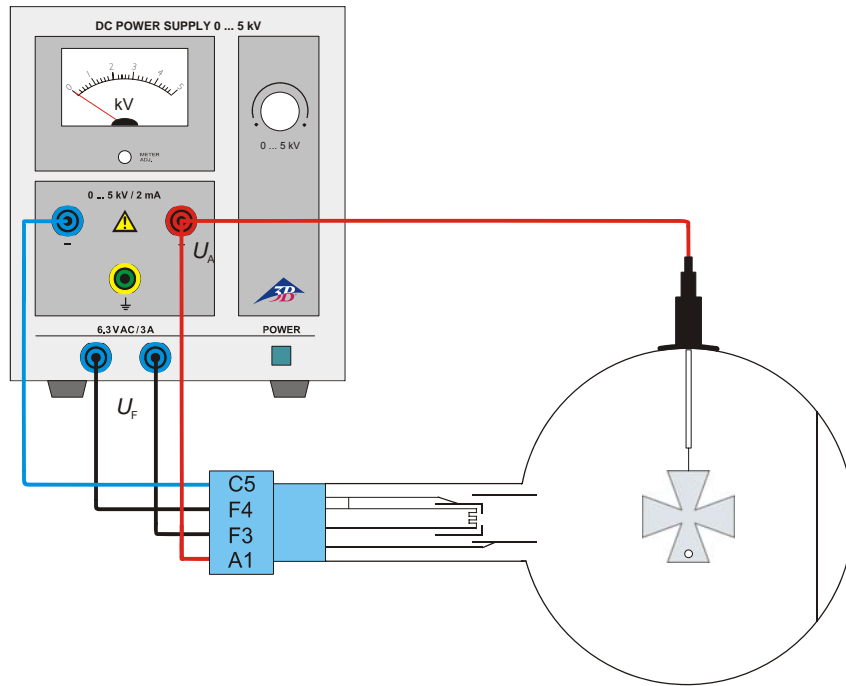

Fig. 1 Linear propagation of cathode rays
- Set up the circuit as in Fig 1.